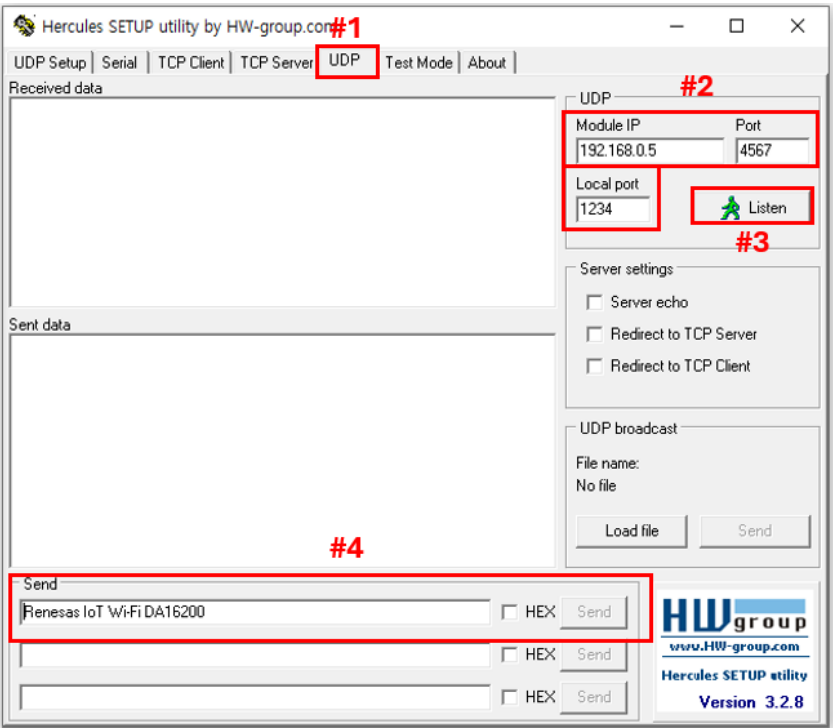

Figure 29. Hercules – UDP socket setting
- a. Select UDP (#1, see Figure 29).
- b. Enter the IP address and port of the counterpart's UDP socket (#2, see Figure 29).
- c. Enter the port number to be used and click Listen to open the socket (#3, see Figure 29).
- d. Enter data and click Send to transmit (#4, see Figure 29).